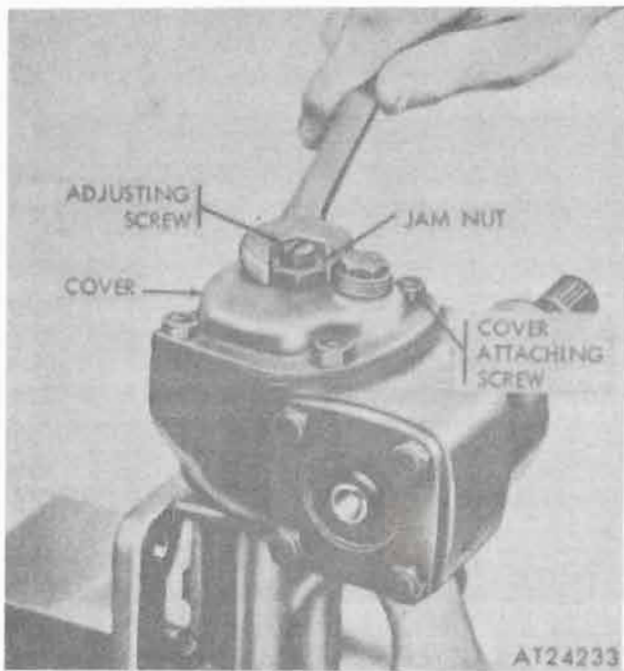

Figure 16-6. Steering gear adjusting screw and jam nut.
c. Remove jam nut from adjusting screw on housing cover (fig. 16-6).
d. Remove four screws securing cover to housing (fig. 16-6).